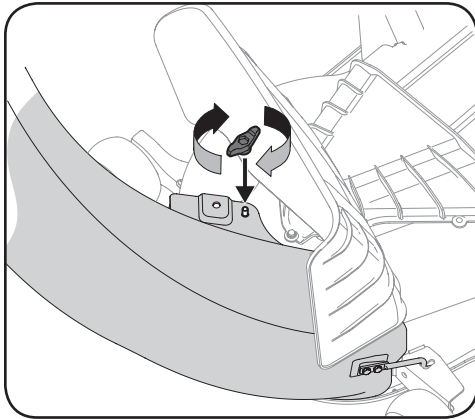

Figure 4-20
6. Secure the discharge chute elbow to the cutting deck using a wing knob (720-04122) included in hardware pack 689-01419. Refer to Figure 4-20.